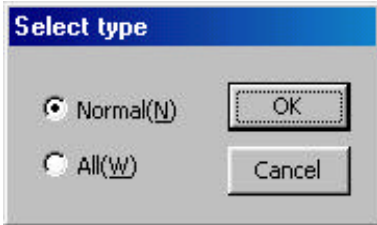

Figure 7.41 “Select type” dialog box
Click “*Download (D)*” in the “Index Comp” menu to display the “Select type” dialog box (see Figure 7.41).